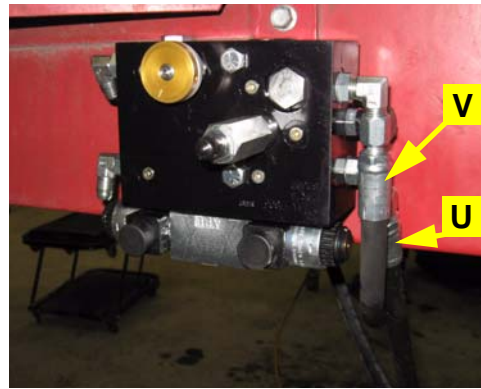

Figure 4a: Installed pressure and tank hoses at block
- a. Connect the pressure hose **U** from the **P** port of the automated steering block to the adapter fitting **G** installed on the hydraulic pump (Figures 4a and 4b).
- b. Connect the tank hose **V** from the **T** port on the automated steering block to the reducer fitting **H** on the hydraulic reservoir (Figures 4a and 4c).